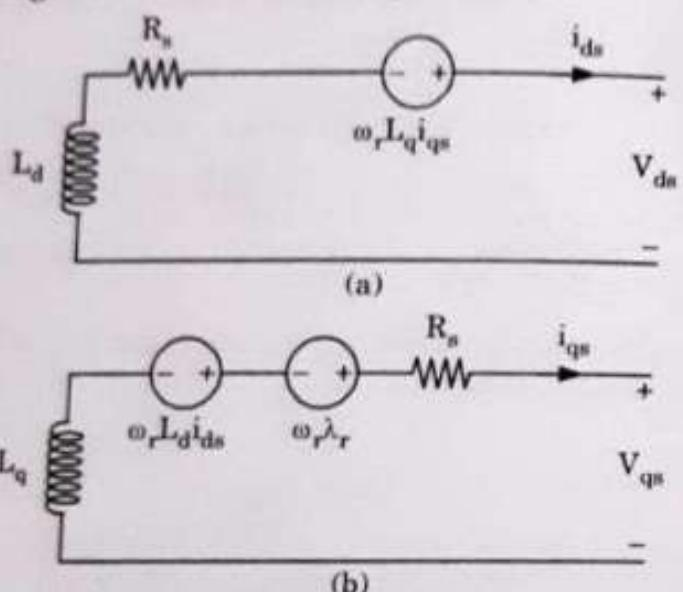

Fig. 4.1.2. Permanent magnet synchronous generator equivalent circuit, where (a) represents the d-axis and (b) represents the q-axis.
- B. Equivalent circuit :** The equivalent circuit of permanent magnet synchronous generator as shown in Fig. 4.1.2.